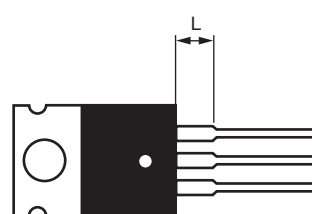

Fig. 4
- For packages with leads that widen near the body, the bending distance should be no less than length L marked in Fig. 4.